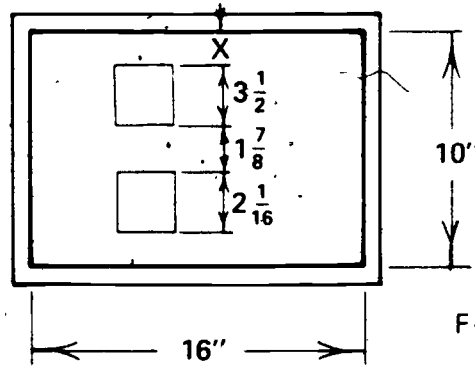

FIGURE 3
2. Find X in the following layout dimensions (Figure 3)